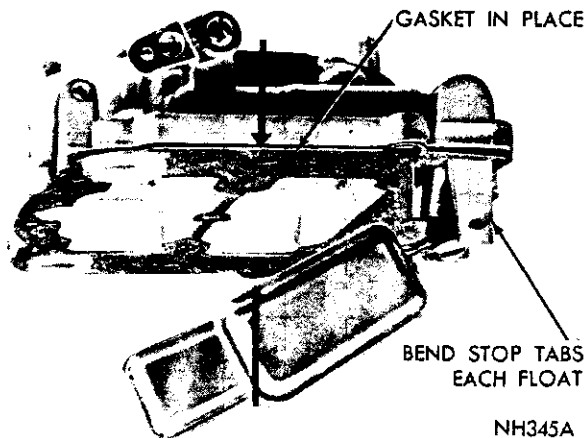

Fig. 12—Checking Float Drop
(1) Holding air horn in an upright position, measure distance from the top of floats (outer end) to the air horn gasket, (Fig. 12). This measurement should be $3/4$ inch. If an adjustment is necessary, bend stop tabs on float levers until correct drop setting has been obtained. Bend tab toward needle seat to lessen drop, or away from seat to increase drop.
(2) After floats have been checked and adjusted, continue to assemble carburetor as follows:
(3) Place accelerator pump plunger lower spring in pump cylinder, then lower air horn carefully down on main body. Care must be taken to center small brass main bleed tubes so that they will pass through holes in air horn without being damaged. **Be sure the fuel baffles on the air horn, slide down in front, (bowl side) of the float chamber baffles, or the air horn will not index correctly with the main body and can cause the floats to hang up. Be sure the leather on the plunger does not curl or wrinkle. Accelerator pump operation will be affected if this precaution is not observed. Install dashpot (if so equipped.)**
(4) Install 10 air horn attaching screws and tighten